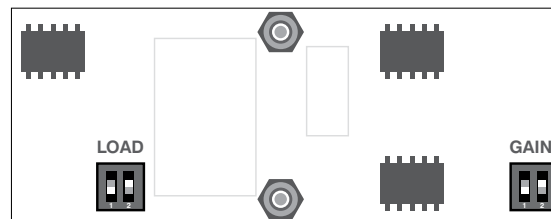

FIGURE 10: Detail of Phono Card PCB default settings (LOAD-400 ohms, 1-OFF, 2-ON) (GAIN-62 dB, 1-OFF, 2-ON)
STEP 4: Locate the LOAD and GAIN switches on the phono card. (See FIGURE 10) Adjust the Load Resistance and Gain settings on the plug-in Phono Card as shown in the tables in FIGURES 11 and 12.